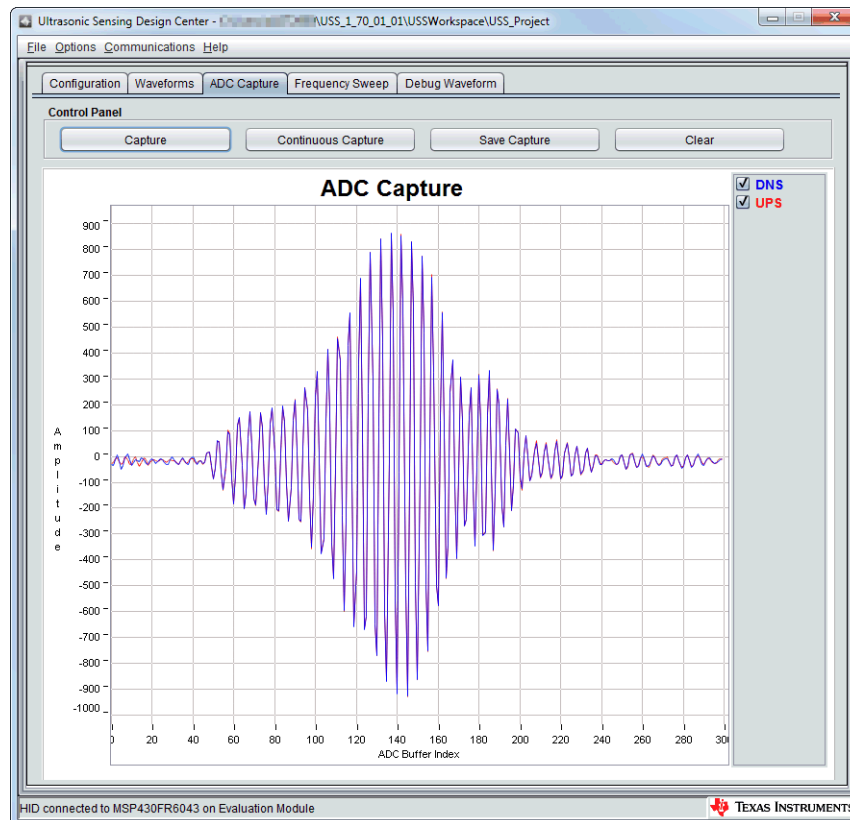

Figure 6. ADC Capture in Design Center
9. Select the ADC Capture window and click **Capture**. Design Center requests and plots an ADC capture of the ultrasonic signals (see Figure 6).
NOTE: The ADC waveform might be different from Figure 6, but it should have sufficient amplitude, the upstream and downstream should look almost identical (without flow), and the complete signals should fit in the capture window.